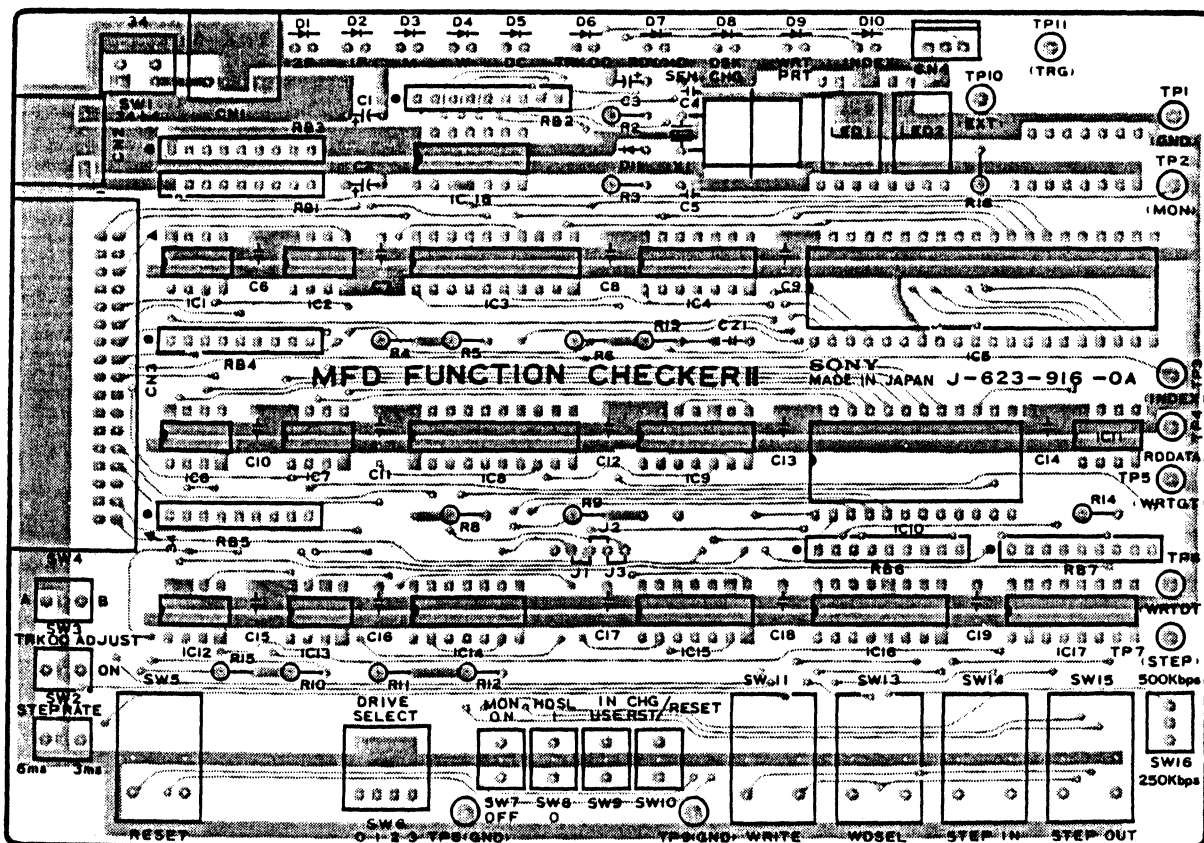

Fig. 2-2 Part Layout on MFD Function Checker II
- (3) Part Layout and Circuit Diagram on MFD Function Checker II. (Refer to Fig. 2-2, 2-3)